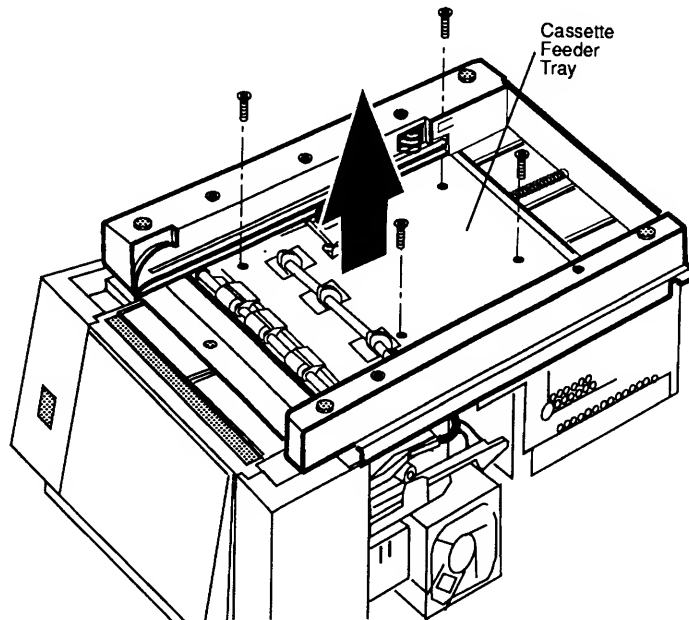

Figure 2-2 Cassette Feeder Tray
1. Turn the printer upside down so that it is resting on its top (**Figure 2-2**).
2. Remove the four screws that secure the cassette feeder tray to the printer (**Figure 2-2**).